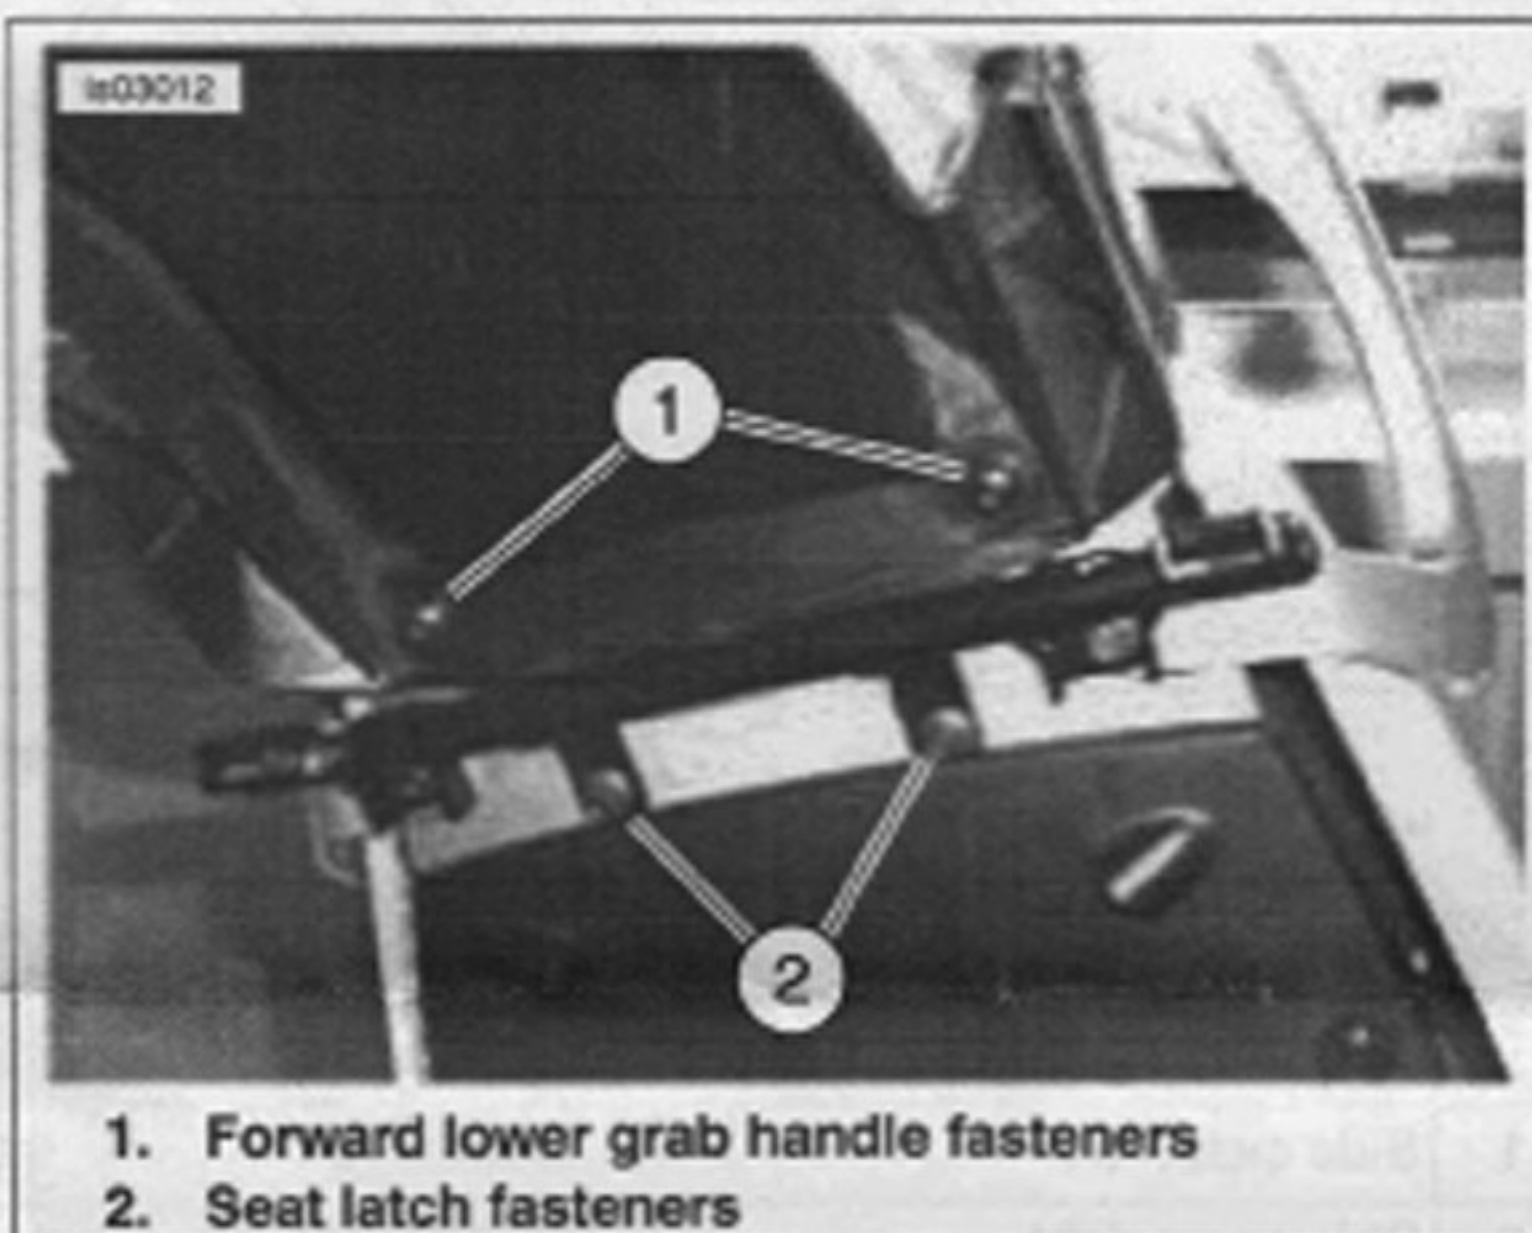

Figure 4. Grab Handle and Seat Latch Hardware
1. See Figure 4. Remove the two button head fasteners holding the forward lower grab handle mount points (1).
2. Remove the two button head fasteners in the middle of the tail loop holding the seat latch (2).